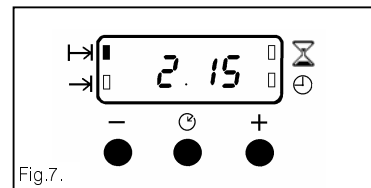

Fig.7.
- iv) To set the length of cooking time, press the Selector Control button until the 'Cook Time' indicator neon (⬅) is illuminated. Press the increase control ( + ) until the required length of cooking time is displayed, e.g. 2 hrs 15 mins as Fig. 7. If necessary depress the decrease control ( - ) until the correct time interval is achieved.